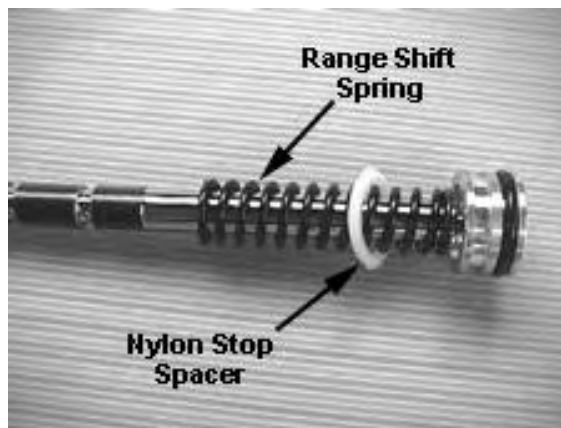

Fig. 88
48. Insert the range shift shaft (containing the shaft, nylon stop ring, and range shift spring) into the housing passing it through the range shift forks. *See Fig. 88.*